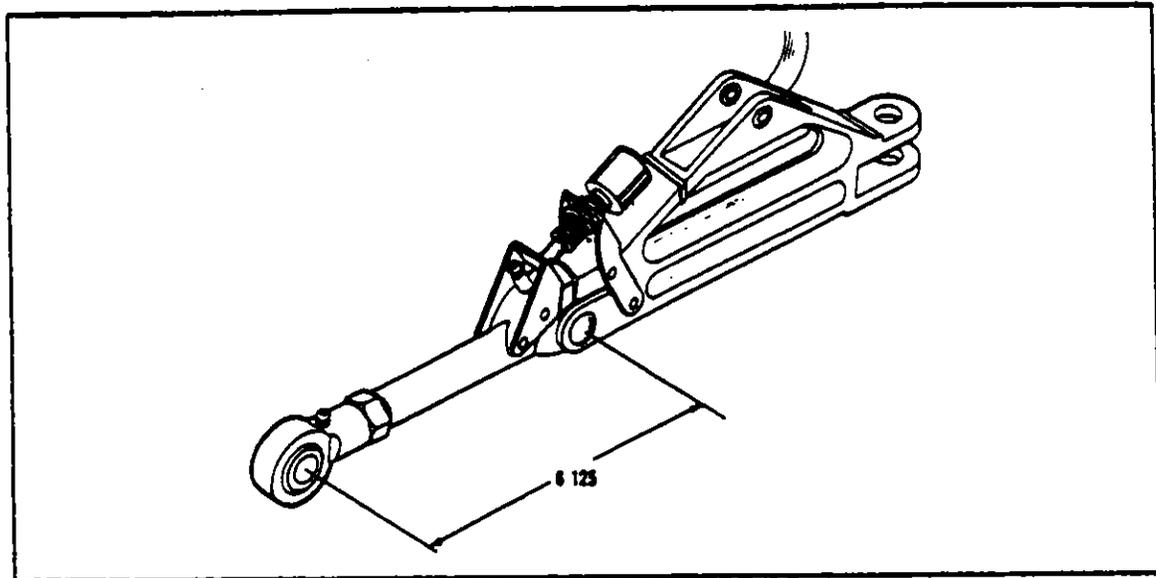

FIGURE 6-10. ADJUSTMENT OF MAIN LANDING GEAR DRAG LINK
a. Insert a gear support bearing (43 and 48) in each support fitting (11 and 18) and secure with snap rings (45).
1. Place a spacer washer (17), 0.035, P/N 19513-10, or original number of washers and then the forward support fitting (18) on the forward support arm of the strut housing.
2. Slide the barrel nut (47) into the forward strut arm and insert the attaching bolt (49) with washer through the fitting into the arm.
4. Secure the aft support fitting (11) to the rear spar web with attaching bolts, washers and nuts.
6. Using the access hole behind the rear spar, insert the bungee tube (10) with washer (44) (0.125, P/N 14843-20) through the rear support fitting and into the rear strut arm using enough shim washers (12) between the rear support fitting and the strut arm to diminish end play of the strut housing. (Shim washers are available in sizes 0.035, P/N 19513-10; 0.062, P/N 14843-93; and 0.125, P/N 14843-20.)
7. Position the side brace support bracket (22) on the main spar web and secure with bolts and washers.
- c. Assemble the upper and lower drag links (24 and 27) with pivot bolt (26).
- d. Adjust the lower drag link to a dimension of 6.125 inches from center of the middle pivot bolt to center of the rod end bearing. (Refer to Figure 6-10.)
- g. Check for clearance between drag link middle pivot bolt head (26) and the main gear capstrip, and binding of the lower drag link and bearing by retracting and extending the gear by hand. If clearance is less than 0.062 of an inch between pivot bolt head and spar capstrip, additional shims (17) must be added between the strut arm and front support bracket.
- h. Install studs (14) in rear strut arm and safety with minimum 0.041 (Spec. MS20995C41) wire (13).
- i. Install barrel nut (46) in rear strut arm and insert bolt (9) with washer through bungee tube and tighten.
6-34. **Adjustment Of Main Gear Side Brace Links.** (Refer to Figure 6-10.) Disconnect the side brace link from the main gear strut housing, and adjust to maintain a distance of 6.125 inches between the center of the pivot bolt which attaches the upper drag link to the lower drag link and the center of the rod end bearing.